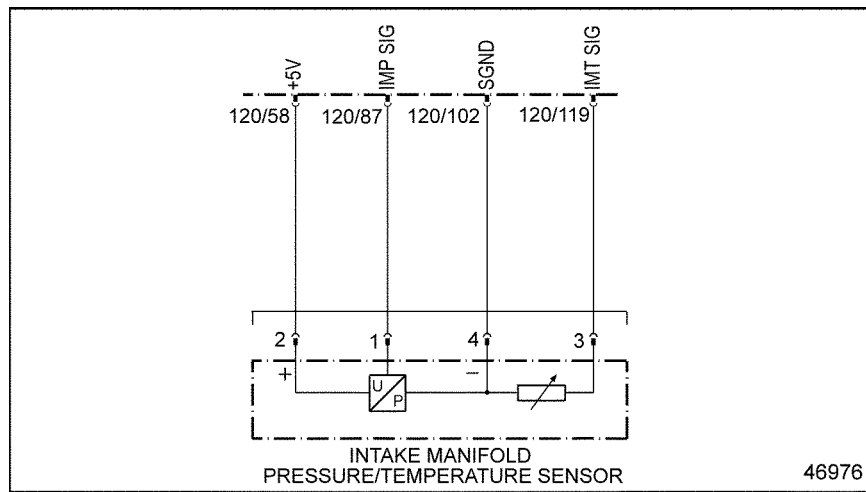

Figure 40-1 Intake Manifold Pressure/Temp Sensor Wiring
- [a] If the resistance is less than 5 Ω , repair the short between pins 102 and 119 of the 120-pin MCM connector. See Figure 40-1. Refer to section 40.2.1.1.
- [b] If the resistance is more than 5 Ω , repair the short to power on the circuit between pin 119 of the 120-pin MCM connector and pin 3 of the Intake Manifold Pressure/Temperature Sensor. See Figure 40-1. Refer to section 40.2.1.1.